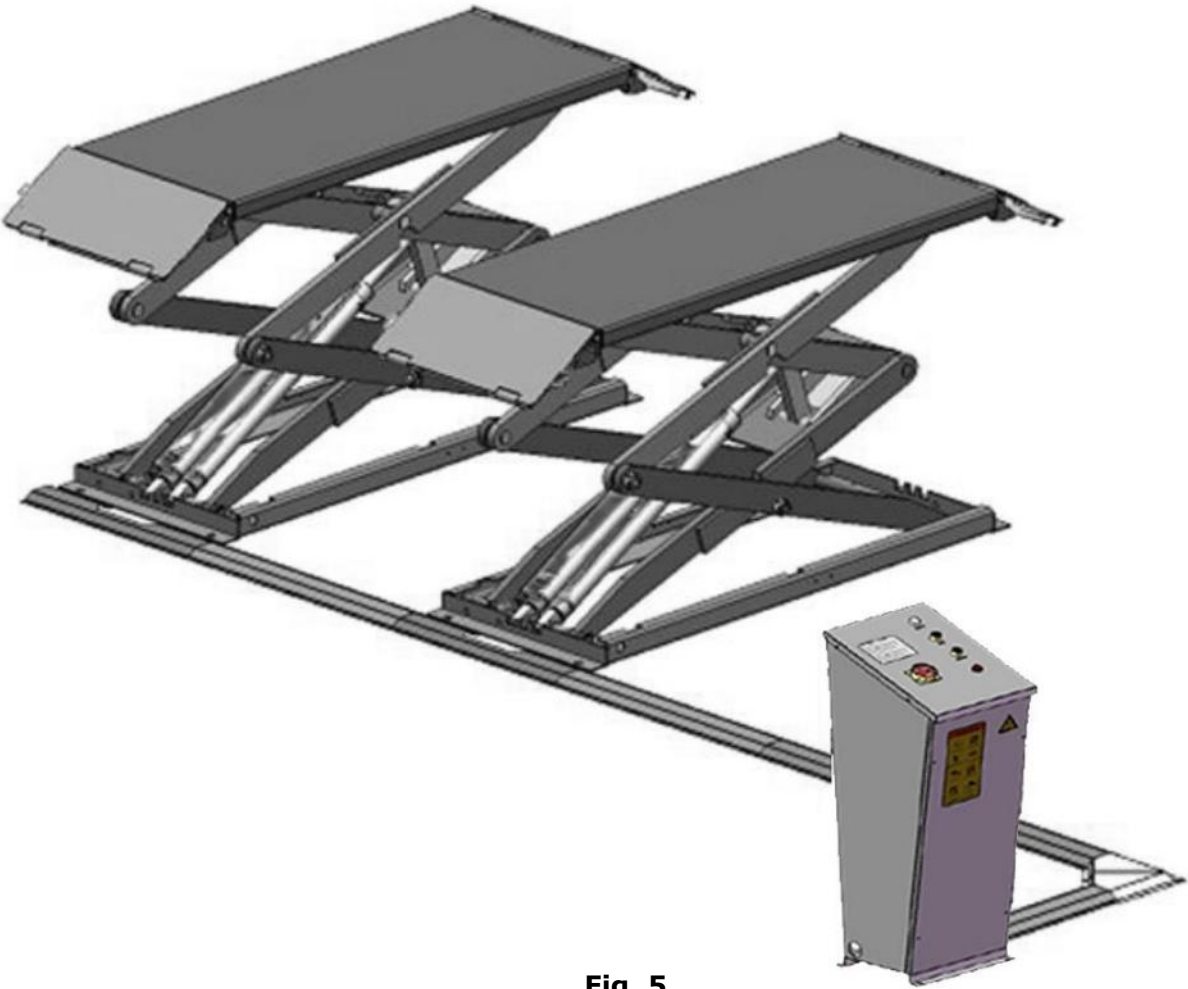

Fig. 5
B. Control cabinet placement diagram 2.see Fig.5